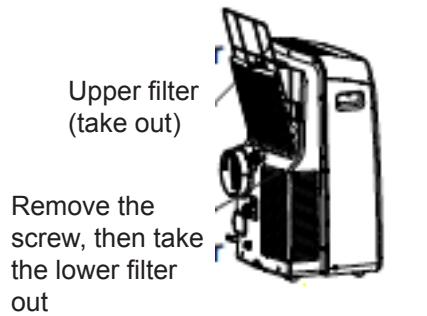

Fig. 23
- Removal This unit has two filters. Take the upper filter out along the arrow direction (Fig.23), then take the filter down.
- Remove the lower filter by loosening the screw, taking out the filter as shown in Fig.23.